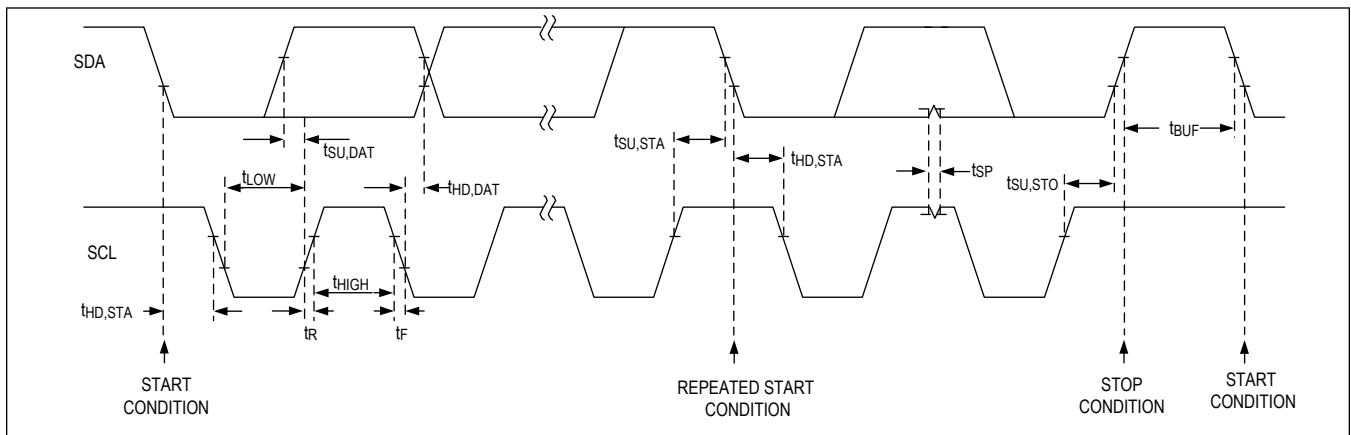

Figure 33. I²C Interface Timing Diagram
Figure 33 shows the 2-wire interface timing diagram. The master generates SCL and initiates data transfer on the bus. The master device writes data to the IC by transmitting the proper slave address followed by two register address bytes (most significant byte first) and then the data word. Each transmit sequence is framed by a START (S) or REPEATED START (Sr) condition and a STOP (P) condition. Each word transmitted to the IC is 8 bits long and is followed by an acknowledge clock pulse. A master reading data from the IC transmits the proper slave address followed by a series of nine SCL pulses. The IC transmits data on SDA in sync with the master-generated SCL pulses. The master acknowledges receipt of each byte of data. Each read sequence is framed by a START (S) or REPEATED START (Sr) condition, a not acknowledge, and a STOP (P) condition. SDA operates as both an input and an open-drain output. A pullup resistor, typically greater than 500Ω, is required on SDA. SCL operates only as an input. A pullup resistor, typically greater than 500Ω, is required on SCL if there are multiple masters on the bus, or if the single master has an open-drain SCL output. Series resistors in line with SDA and SCL are optional. Series resistors protect the digital inputs of the IC from high voltage spikes on the bus lines and minimize crosstalk and undershoot of the bus signals.